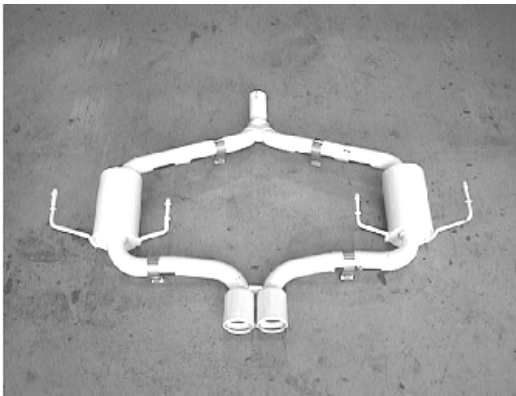

Figure 8
1. Assemble the entire rear section as shown in figure 8. Do Not tighten the clamps.